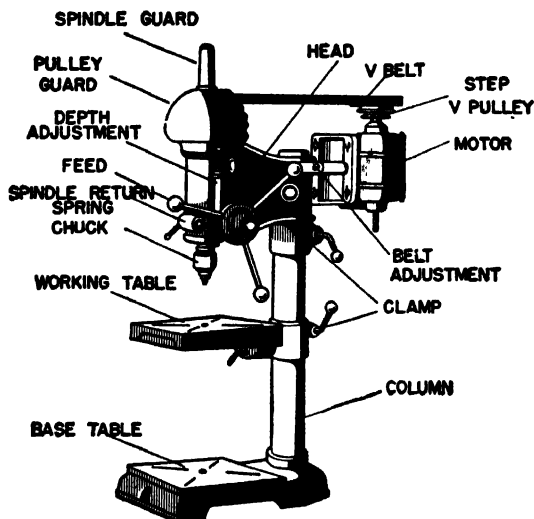

Fig. 7-4. Parts of a standard bench drill press.
**The Standard Drill Press: Bench Type.** This drill press, Fig. 7-4, is found in many school shops as well as in many small manu-